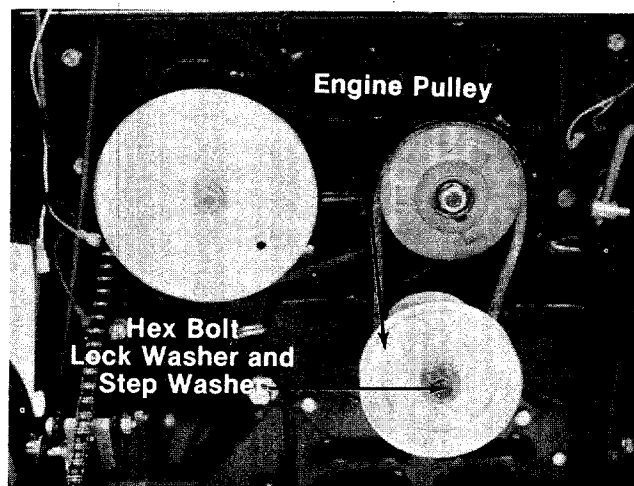

FIGURE 42.
2. Depress the clutch pedal and lock it. Remove the engine pulley by removing the hex bolt, lock washer and step washer shown in figure 42. A 9/16" wrench is required.